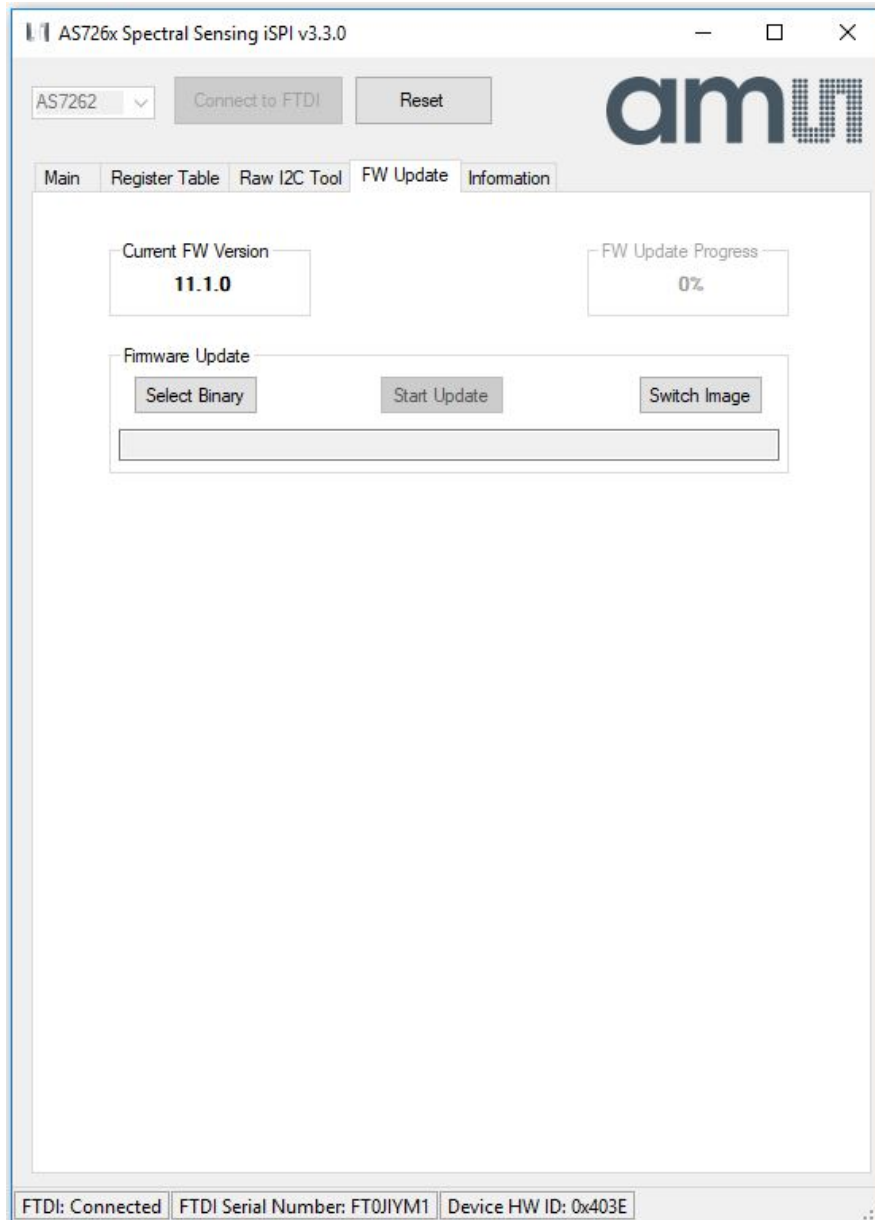

Figure 8: FW Update Page
- “Current FW Version” displays the present firmware burned on to the device. In the above example in figure 8, it is FW Version 11.1.0.